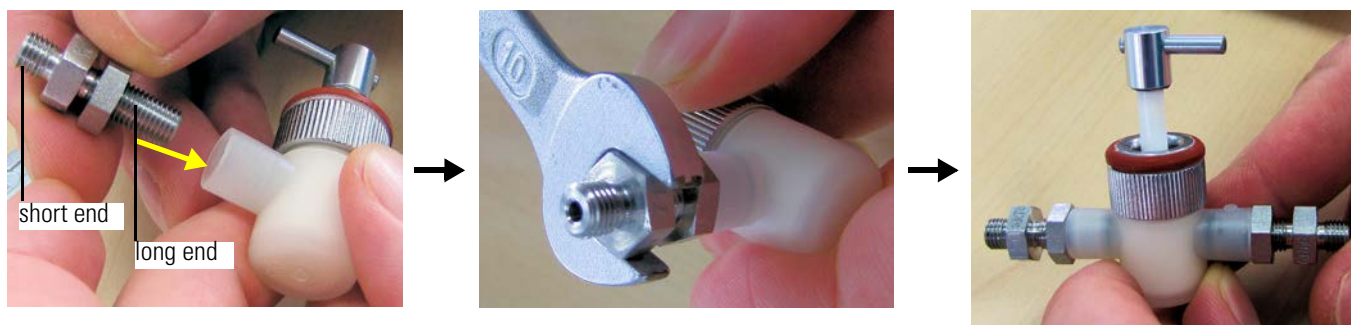

Figure 9-32. Screwing one SERTO fitting with its long end into each side of T-piece
11. Very carefully screw one SERTO fitting with its **long** end into each side of the T-piece using a 10 mm open-ended spanner. See Figure 9-32.